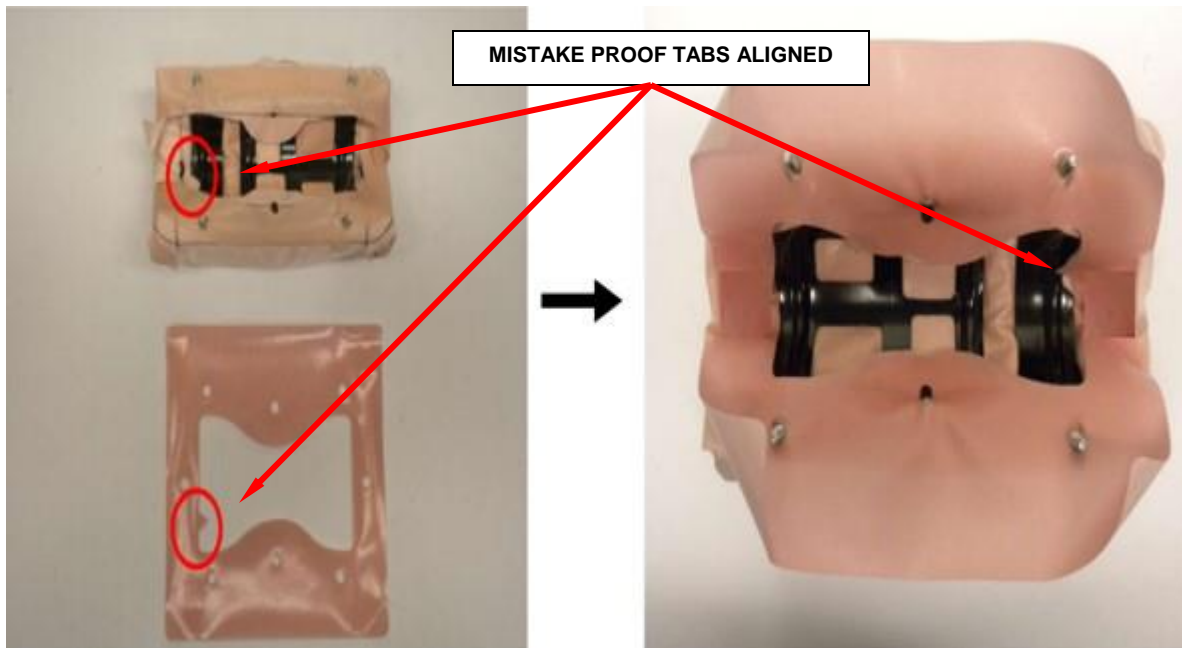

Figure 55 - Fabric Gasket to Cushion (Glossy Side Up)
- i. Place the fabric gasket, glossy side up, onto cushion. Mistake-proof tab should be aligned to the tab on the cushion (Figure 55).